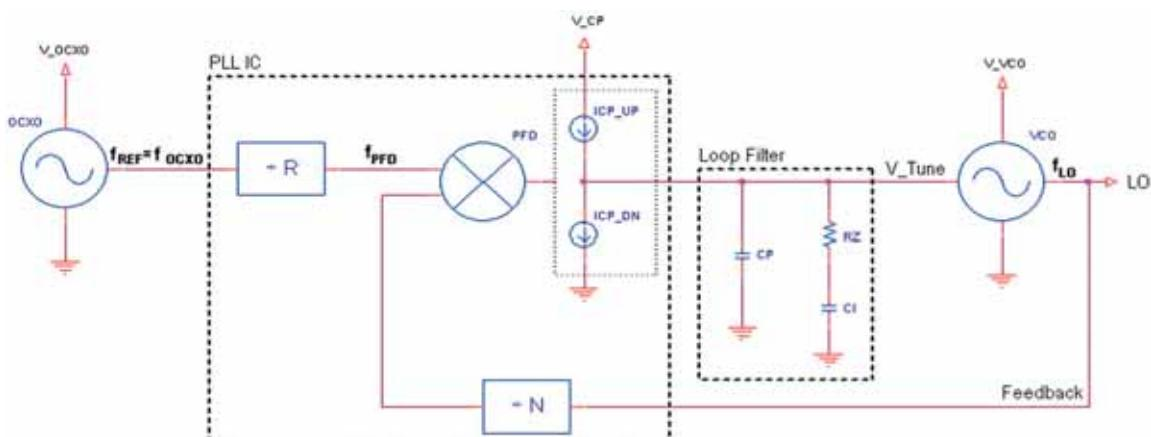

Figure 1: Basic building blocks of a PLL
Figure 1 shows the building blocks of a PLL system used for generating an LO signal. The PLL integrated circuit (IC) usually contains all clock dividers (R and N), phase/frequency detector (PFD) and the charge pump, represented by the two current sources, ICP_UP and ICP_DN.
The PLL shown in Figure 1 is called an integer-N PLL because the feedback divider (the N-divider) can only assume integer values. When this divider assumes both integer and non-integer values the loop is called a fractional-N PLL.
The PLL system of Figure 1 acts as a low-pass filter on the reference clock phase noise and as a high-pass filter on that of the VCO. The low-pass and high-pass filter cutoff frequency is defined by the loop bandwidth (LBW) of the PLL. Ideally, the LO phase noise follows that of the reference clock converted to the LO frequency (that is, multiplied by N/R) up to the LBW and subsequently follows the phase noise of the VCO. The PLL IC's noise contribution elevates the phase noise in the transition area.
Any unwanted signal on the power supplies shown in Figure 1 (V_{OCXO} , V_{CP} and V_{VCO}) can translate into a spurious signal (spurs) on the LO signal. Careful design of these supplies greatly reduces or even eliminates these spurs. Charge pump related spurs are, however, inevitable. But, they can be reduced with careful PLL system design.
In steady-state operation the PLL is locked and, theoretically, there is no longer a need to engage the ICP_UP and ICP_DN current sources of Figure 1 during every PFD